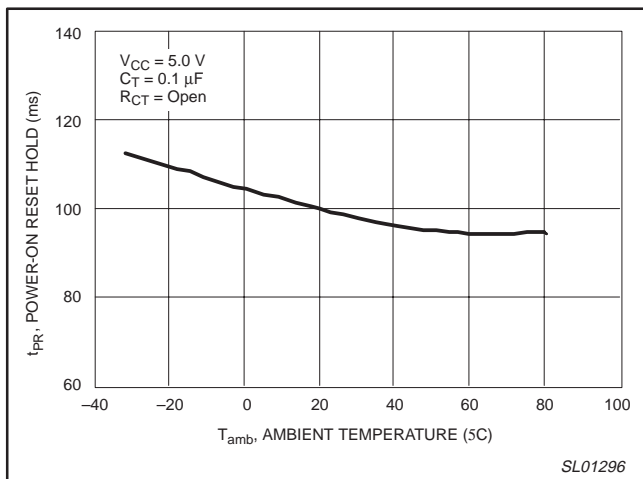
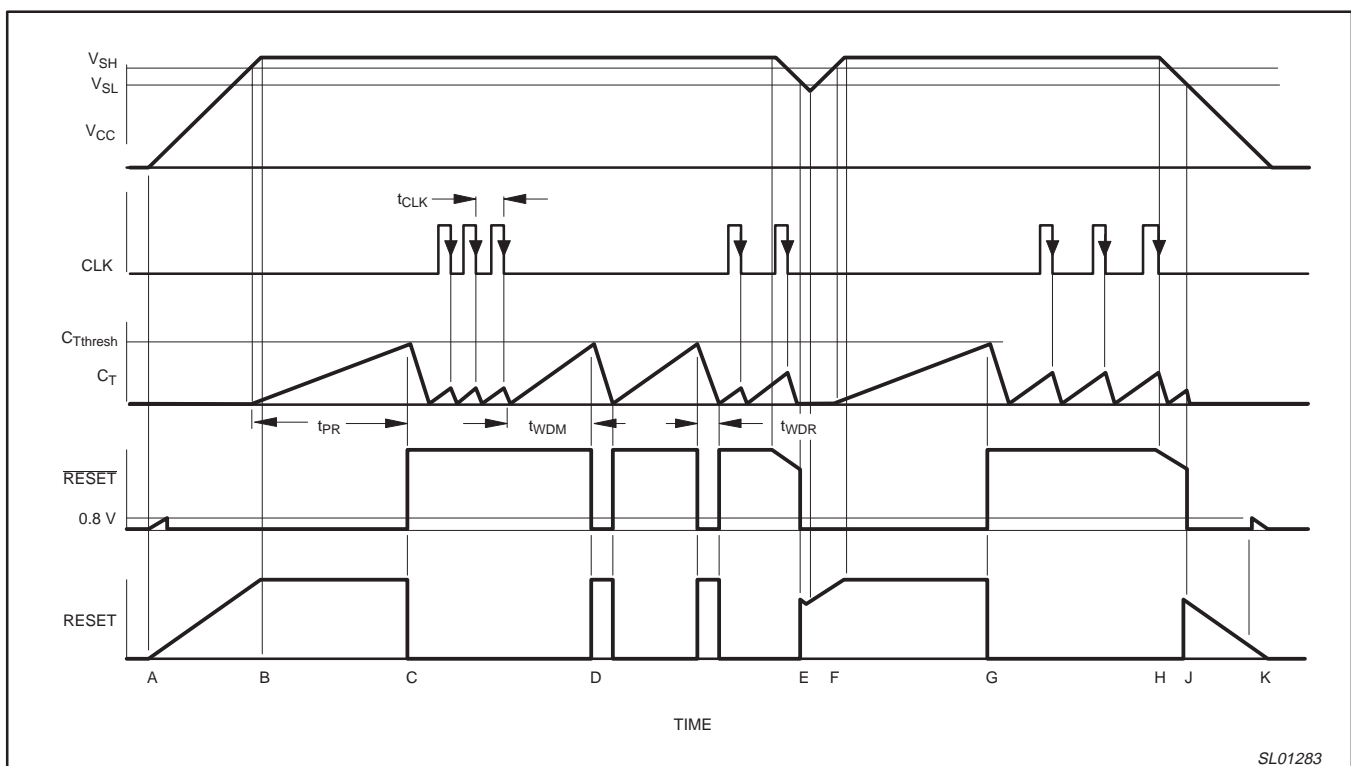
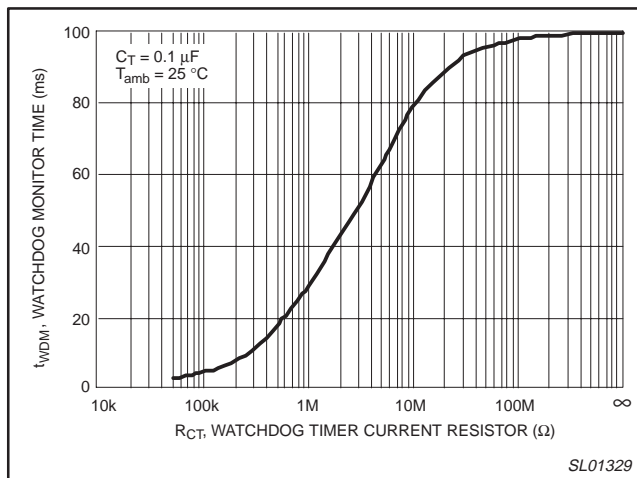

Figure 11. Power-on reset hold time vs. temperature.
Figure 20. Timing diagram.
Figure 25. Watchdog monitoring vs. pull-up resistor R_{CT} .
- 'Watchdog monitoring time' is the duration from the last pulse (negative-going edge) of the timer clear clock pulse until reset output pulse occurs (see Figure 20). A reset signal is output if a clock pulse is not input during this time. Watchdog monitoring time can be modified by changing the value of the R_{CT} pull-up resistor. Monitoring time adjustments are shown in Figure 25.
- 'Watchdog reset time' is the reset pulse width (see Figure 20).
The timing diagram shown in Figure 20 depicts the operation of the device. Letters indicate events on the TIME axis.
The values of R_{CT} and C_T affect the Watchdog monitoring time (t_{WDM}), the Watchdog reset time (t_{WDR}), and power-on reset delay time (t_{PR}). See Formula 1 in the AC Electrical Characteristics and the Timing diagram shown in Figure 20 for parameter definitions. Also see Figures 11 through 18 for typical time relationship performance.
The effect of R_{CT} on the Watchdog timer monitoring time at room temperature for $C_T = 0.1 \text{ mF}$ is shown in Figure 25.